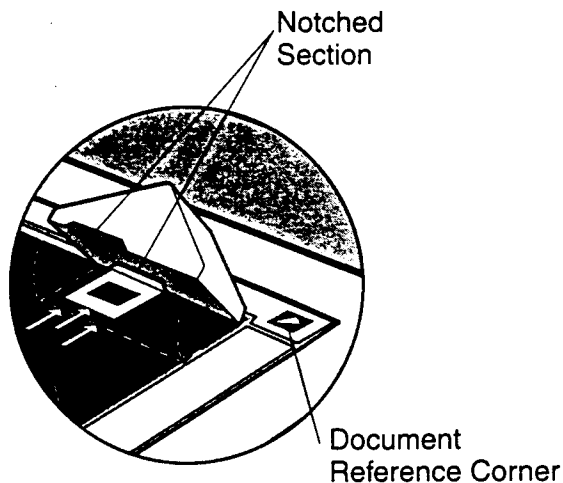

Figure 1 - Slide Positioning
1. Lift the scanner's cover and position the HP ScanJet Slide Adapter in the upper right corner, as shown in Figure 1. Positioned correctly, the triangle on the adapter should be aligned with the triangle in the Document Reference Corner.
2. Tip the HP ScanJet Slide Adapter toward the document cover and place the top edge of a 35-mm slide squarely against the Top Reference Edge, centered horizontally in the notch of the HP ScanJet Slide Adapter, as shown in Figure 1. The slide's *viewing side* should face downward, as when scanning a printed picture. (The viewing side's frame may bear a title or slide number.)
- If one edge of the scanned image is black or if the whole image is black, ensure that the HP ScanJet Slide Adapter is properly positioned on the scanner glass. The slide must be centered under the notched section of the adapter. See Figure 1.